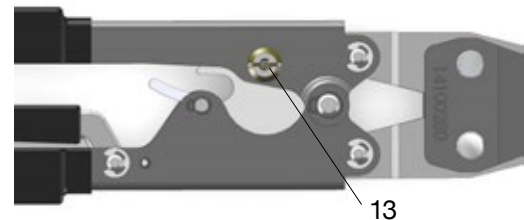

Fig. 13: Adjustment nut
4. Using a straight blade screwdriver, tighten the adjustment nut (Fig. 13).